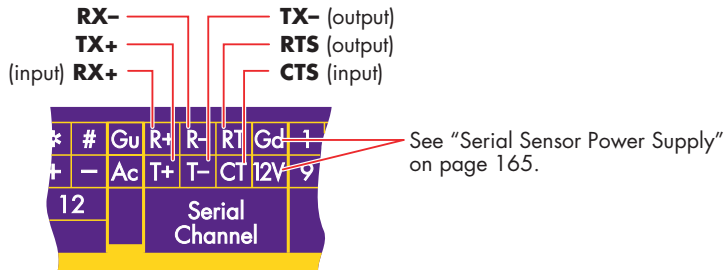

FIGURE 98 The DT800's Serial Channel terminals (DTE)
The DT800's Serial Channel (see Figure 98) can be used to connect to serial input and/or output devices such as a serial sensor, GPS terminal, printer, barcode reader, display panel, PLC, or even to another *dataTaker*.
- has switched power available (on the **12V** terminal — see Figure 98).